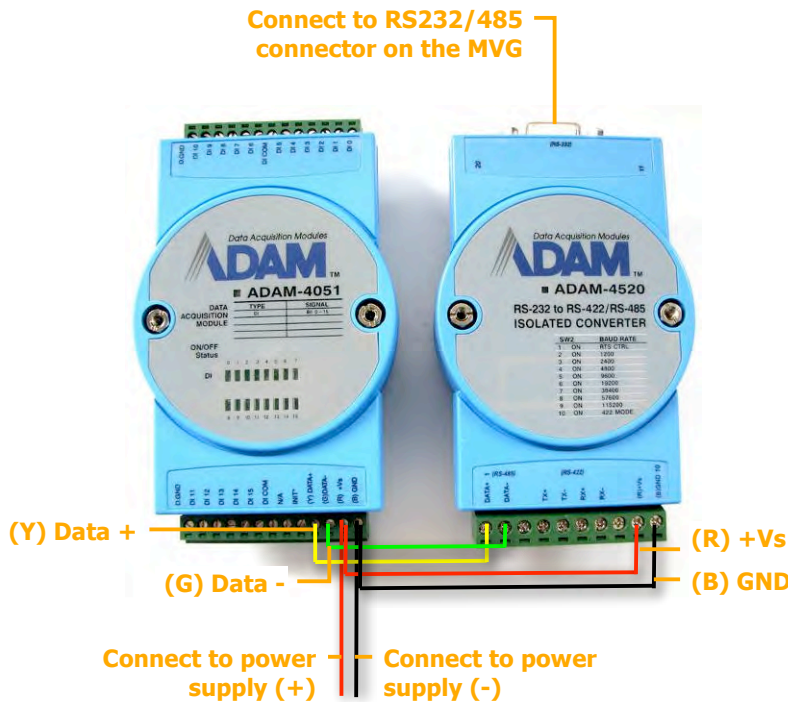

Figure 17: Connecting the module to the converter, the MVG, and the power supply
3. Connect the ADAM-4051 module to the ADAM-4520 isolated converter as follows (see figure 17, page 23):
5. Connect the ADAM-4051 module to the power source as follows (see figure 17, page 23):
- Connect the negative (-) wire of the power supply cable to the **(B) GND** connector on the module